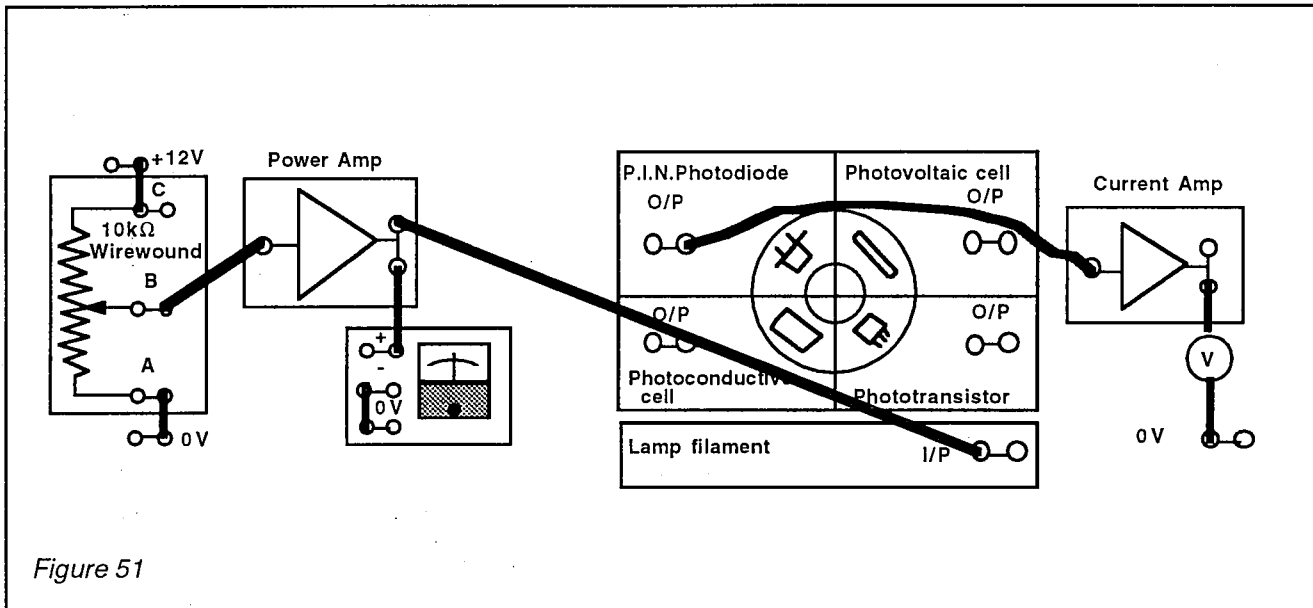

Figure 51
- Connect the circuit as shown in Fig 51 and with the lamp filament voltage set zero, note the output voltage from the current amplifier:-